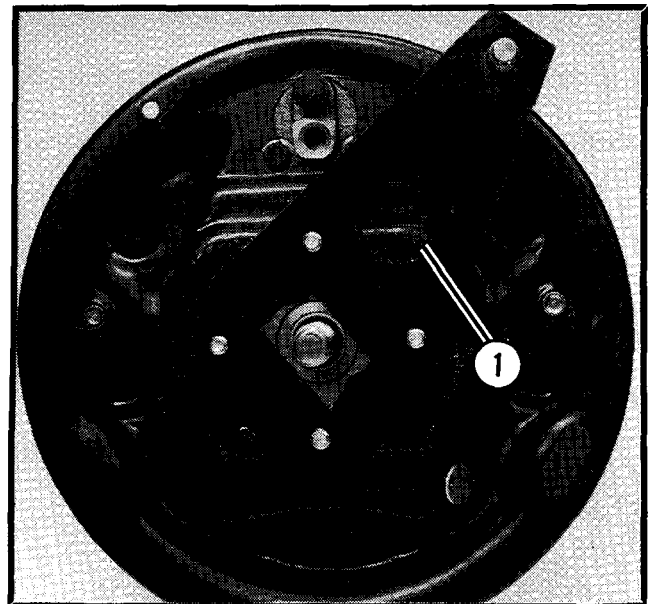

Figure 10.
- 2. Remove adjusting hole cover. See Figure 10.